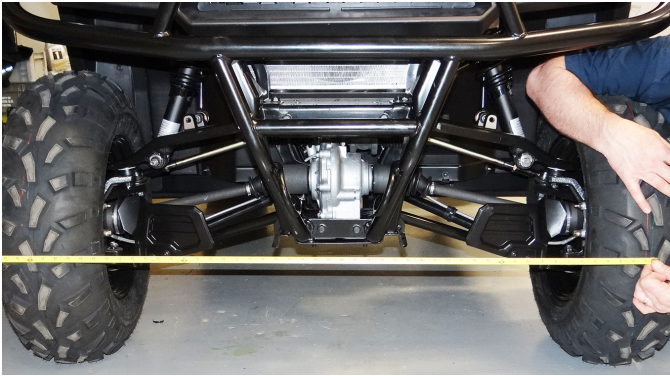

Fig. 30 Wheel Alignment Front of Front Tires
2. Remove the bolt (17) and nut (7) that secure the upper steering shaft (10) to the EPAS unit (1) (Ref. Fig. 30) (Ref. Fig. 22).